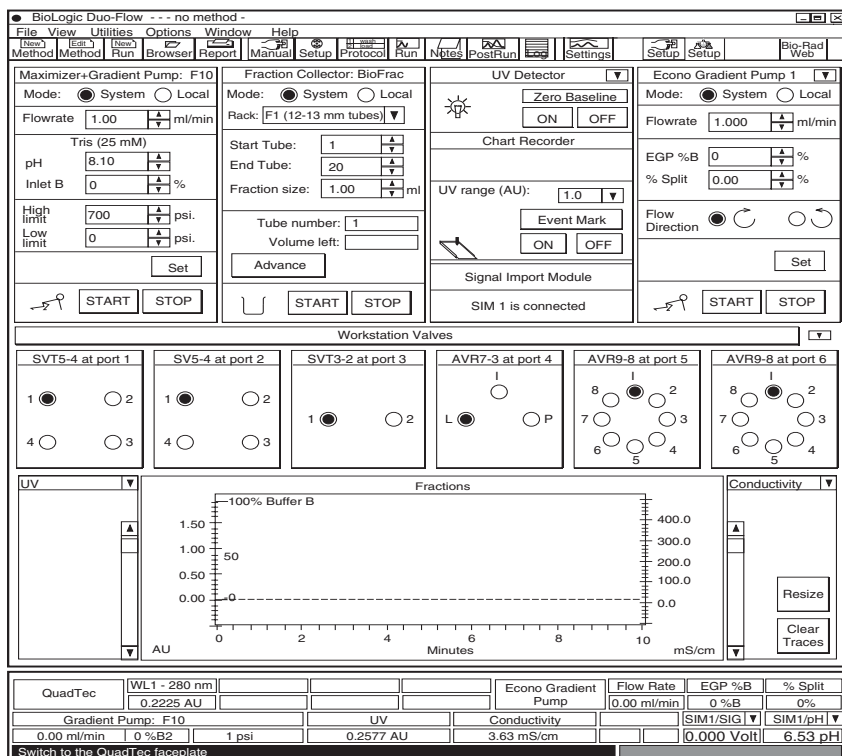

Fig. 7. Manual screen (Buffer Blending mode)
When the DuoFlow Maximizer or Pathfinder system is turned on, the Manual screen is displayed in either Buffer Blending (Figure 7) or Non-Buffer Blending mode (Figure 8). This screen displays instrument control panels that provide direct control of the pumps, valves, fraction collector, UV detector, QuadTec UV/Vis detector, and Econo gradient pump. The arrow in the upper right corner of the detector control panel toggles between the UV and QuadTec detector control panels. The button in the upper right hand corner of the valve control panel toggles between the workstation and Maximizer valve control panels.
The workstation pump parameters can be set from the Manual screen Maximizer+Gradient Pump control panel either by clicking in the appropriate field and entering a value from the keyboard or by using the arrows. The appearance of these control panels depends on whether the instrument is in Buffer Blending or Non-Buffer Blending mode. Figures 7 and 8 show examples of the respective Buffer Blending and Non-Buffer Blending control panels. From these control panels you can set the flow rate, pressure limits, and buffer composition. You can switch between these two panels by pressing  in the toolbar and checking or unchecking the “Use Buffer Blending” box on the Maximizer Buffer Blending Setup screen.
When in System mode, the fraction collector control panel on the Manual screen will show fields for Rack type, Start tube, End tube, Fraction size, Tube number, Volume left, a toggle button for Start and Stop, and a button for Advance (see Figures 7 and 8).
- a. The UV lamp automatically turns on when you turn on power to the workstation. The UV lamp can be turned on and off by clicking the On and Off buttons from the UV detector control panel on the Manual screen (see Figure 7). Check that the lamp is on; the mercury lamp requires approximately 30 minutes to warm up.
- b. From the QuadTec detector control panel on the Manual screen (Figure 7), set the four wavelengths of the QuadTec detector to 280, 260, 214, and 405 nm. Select Set. The active wavelength will appear in the lower screen status bar.
A feature of the Manual screen is its ability to display up to eight traces of a chromatogram, including UV/Vis, pH, conductivity, % Buffer B, and pressure traces over a 10-minute interval. This is useful during column equilibration. The chromatogram window is displayed at the bottom of the screen, under the valve control panel (See Figures 7 and 8). Features of the chromatogram window include: